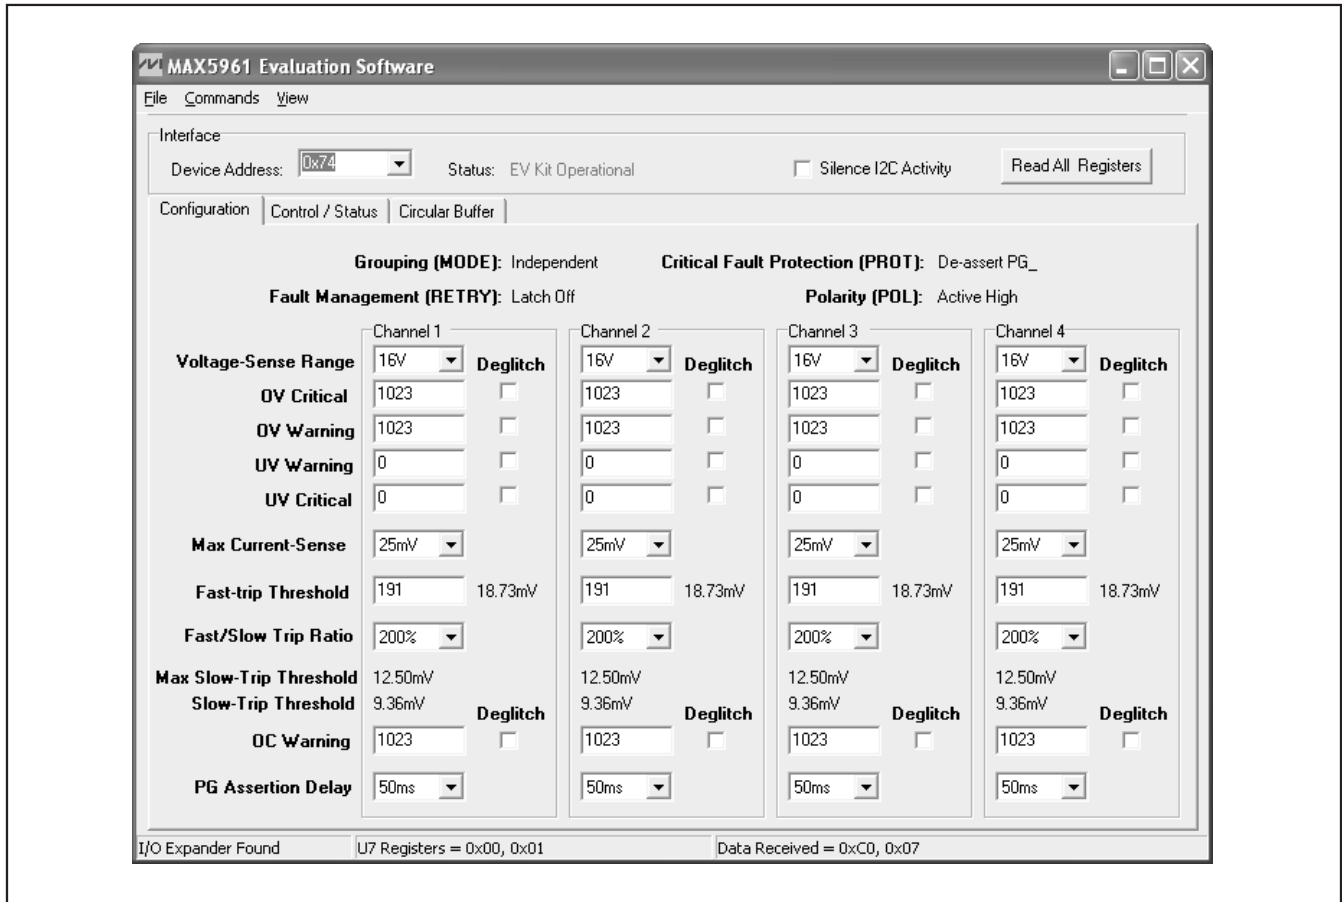

Figure 1. MAX5961 EV Kit Software Main Window
- 23) Start the MAX5961 EV kit software by opening its icon in the **Start | Programs** menu. The EV kit software main window appears as shown in Figure 1.
The MAX5961 EV kit GUI software provides a user interface (Figure 1) to control the programmable features of the MAX5961 IC. To start the MAX5961 EV kit software, double click the MAX5961 EV kit icon created during installation. The user has to wait approximately 2s while the software detects and configures the MAX5961 EV kit.
The user interface (shown in Figure 1) is easy to operate. Use the mouse, or press the Tab key to navigate through the GUI controls. The software divides the EV kit functions into logical blocks. At the top, the Interface box contains system functions and each tab groups functions for each channel. The correct I²C read or write operation is generated to access the internal memory registers of the MAX5961 when any of these controls are used.
The EV kit software **Configuration** tab (Figure 1) displays the MODE, PROT, RETRY, and POL general settings at the top, while grouping channel-specific settings below. See Table 1 for GUI control details for each channel. Check the **Deglitch** checkboxes located to the right of the **OV Critical**, **OV Warning**, **UV Warning**, **UV Critical**, and **OC Warning** input controls to enable the deglitch feature for those settings.